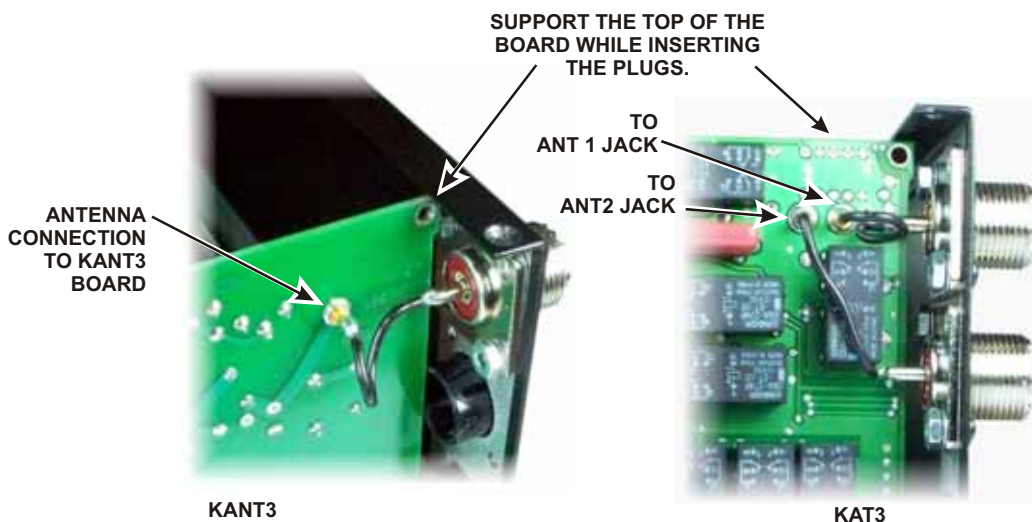

Figure 25. ANT Connections to KANT3 or KAT3 Boards.
□ Connect the wires from the SO239 connector(s) to the KANT3 or KAT3 board as shown in Figure 25. Use needle-nose pliers to grip the terminals on the wire ends and carefully insert the connectors *straight* into the holes in the board. They may be very difficult to insert unless they are perfectly aligned. While inserting the plugs, support the top of the board with your fingers to avoid putting stress on the connector at the bottom.